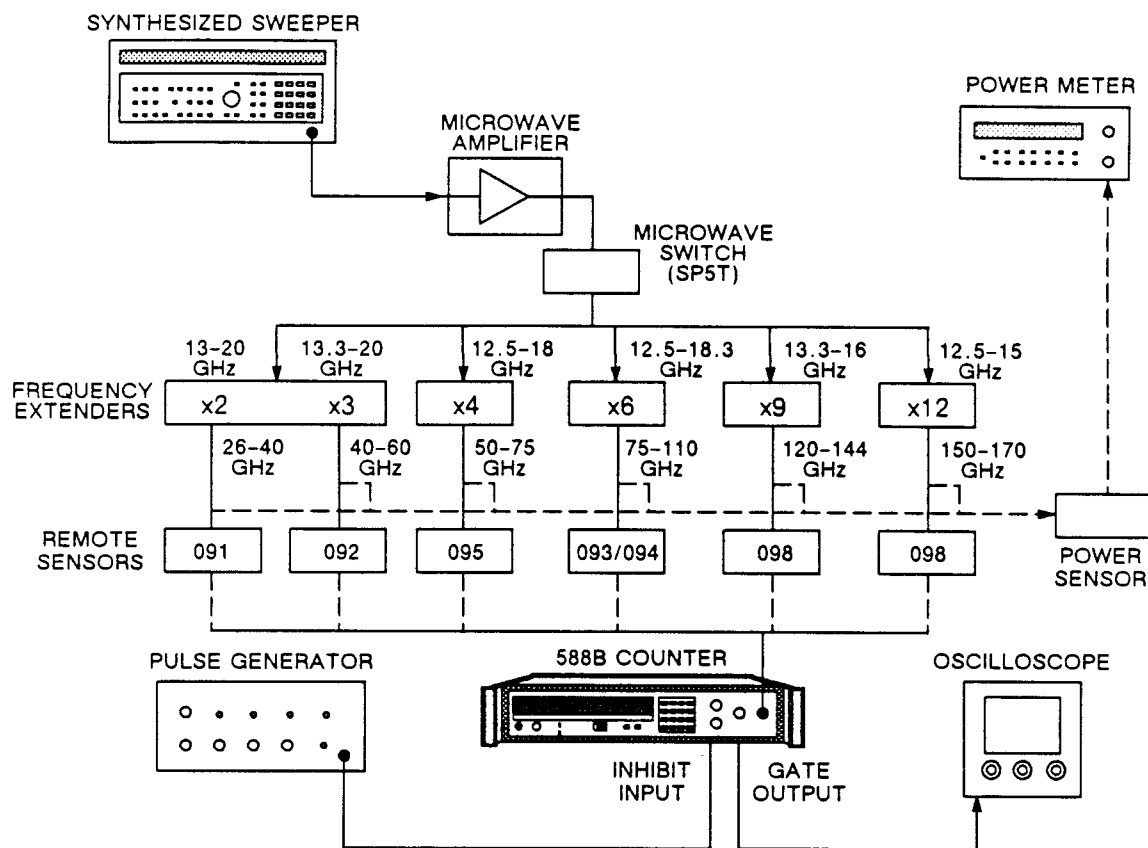

Figure 11-6. Gate Error Test Setup.
1. Connect equipment as shown in Figure 11-6 and turn equipment on.